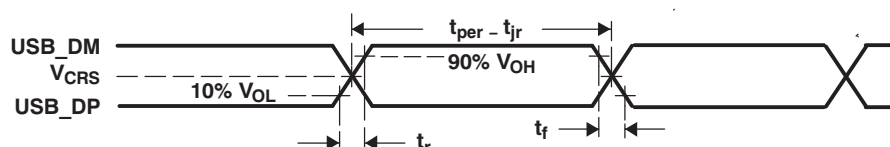

**Figure 5-33. USB2.0 Integrated Transceiver Interface Timing**
**Table 5-25. Switching Characteristics Over Recommended Operating Conditions for USB2.0 (see Figure 5-33)**